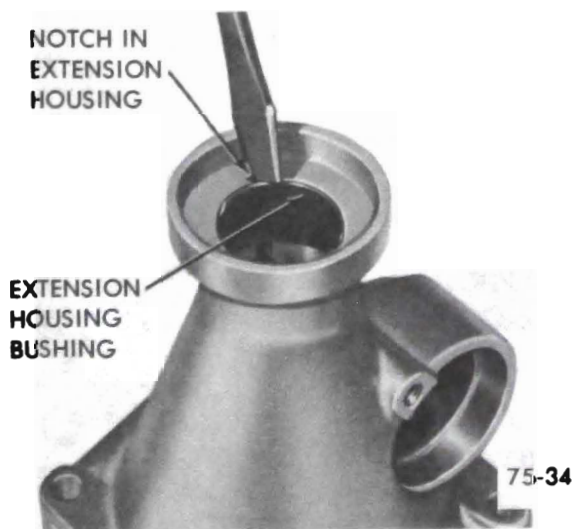

Figure 75-76
1. Remove extension housing bushing using screwdriver to collapse bushing. See Figure 75-76.